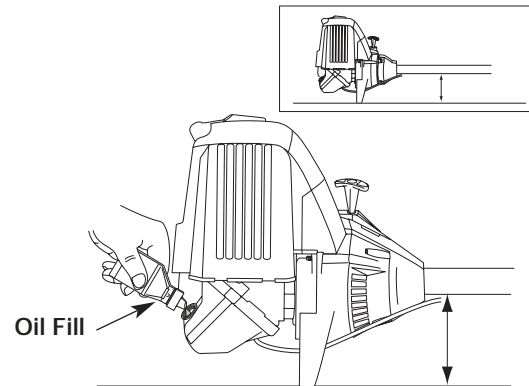

Figure 18
4. Pour the entire bottle of oil into the oil fill hole. See Figure 18.